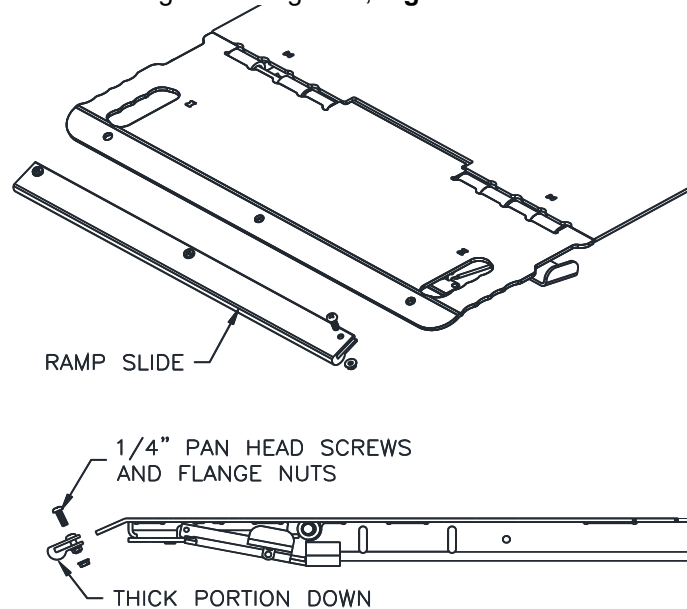

Fig. 4 INSTALLING THE RAMP SIDES
4. Install a Ramp Slide to the bottom of each of the four Ramps. Orient the thick lobe portion of the Ramp Slide down and secure it with three (3) 1/4" Phillips Pan Head Screws and Flanged Locking Nuts, **Fig. 4**.